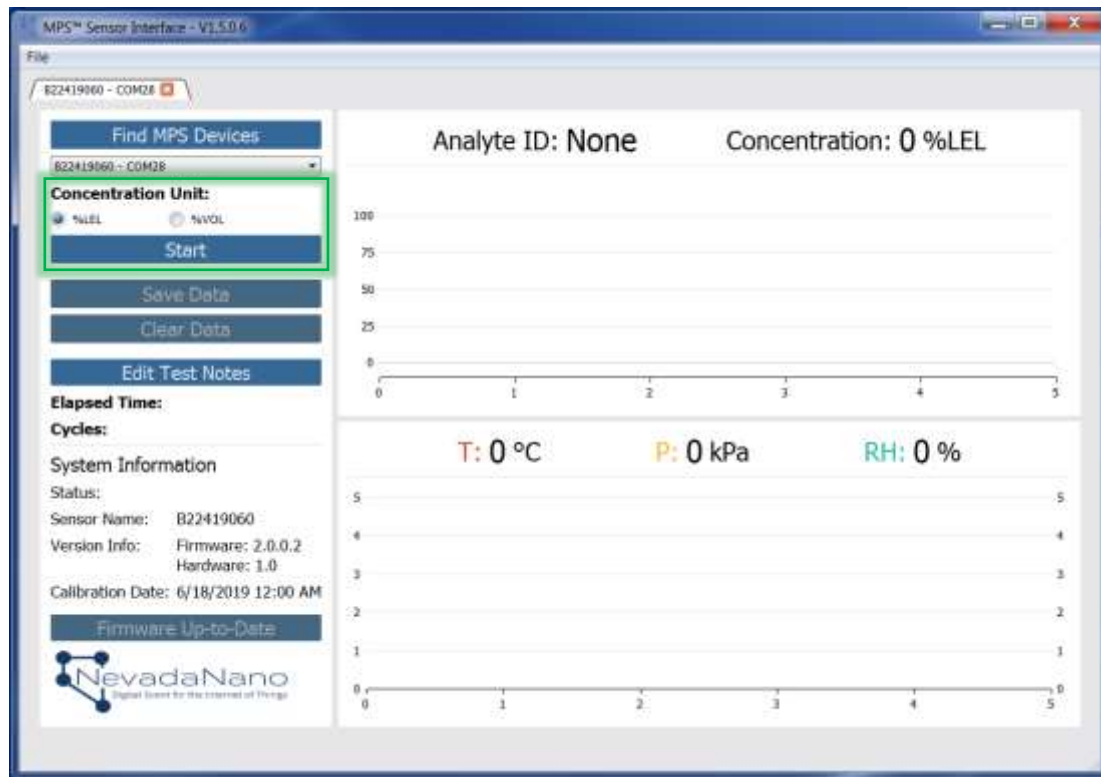

Figure 6 – MPS™ Flammable Gas Sensor Evaluation Software ready for testing. Sensor name is populated and start button is enabled.
1. After performing system setup, the concentration unit selector and start button will be enabled (highlighted in green in Figure 6). **IMPORTANT:** Start the flow of zero-air baseline gas over the MPS Flammable Gas Sensor and wait ~1 minute for baseline gas to replace ambient air before proceeding. Select the desired concentration unit (either %LEL or %VOL) and click Start to begin data acquisition.